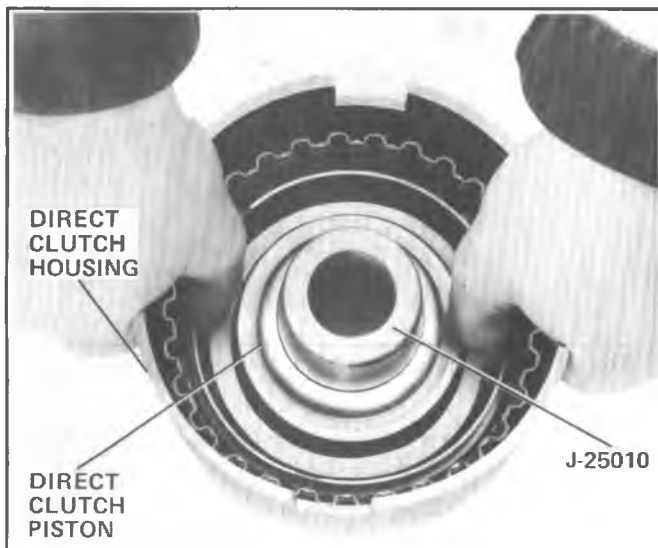

Figure 7A6-131 Installing Direct Clutch Piston
5. Oil the seals and install direct clutch piston (Figure 7A6-131).